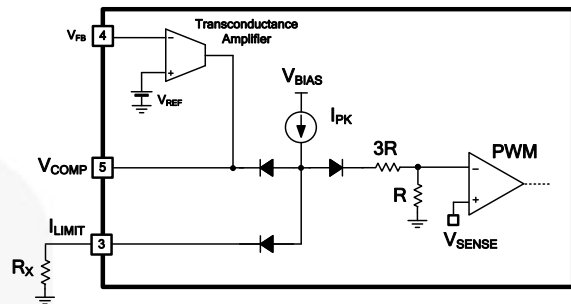

Figure 29. Current Limit Adjustment
As shown in Figure 29, the inverting input voltage of a PWM comparator that determines pulse-by-pulse current limit level is generated by the internal resistor  $R$  and current  $I_{PK}$  with a maximum value of 50  $\mu A$ . When the external resistor  $R_X$  is connected between  $I_{LIMIT}$  and GND,  $I_{PK}$  current can be adjusted because the added  $R_X$  will be configured with internal resistor ( $3R+R$ ) with total 46 k $\Omega$  in parallel and it will flow inversely proportional to  $R_X$  value connected. For example, if no resistor is connected, pulse-by-pulse current limit for MOSFET switching current will be the maximum level (300 mA). On the other hand, the minimum level can be set down to 70 mA by the  $R_X$  value that can be got from following shown in equation (1). Figure 30 shows the adjusted current limit according to the  $R_X$ .